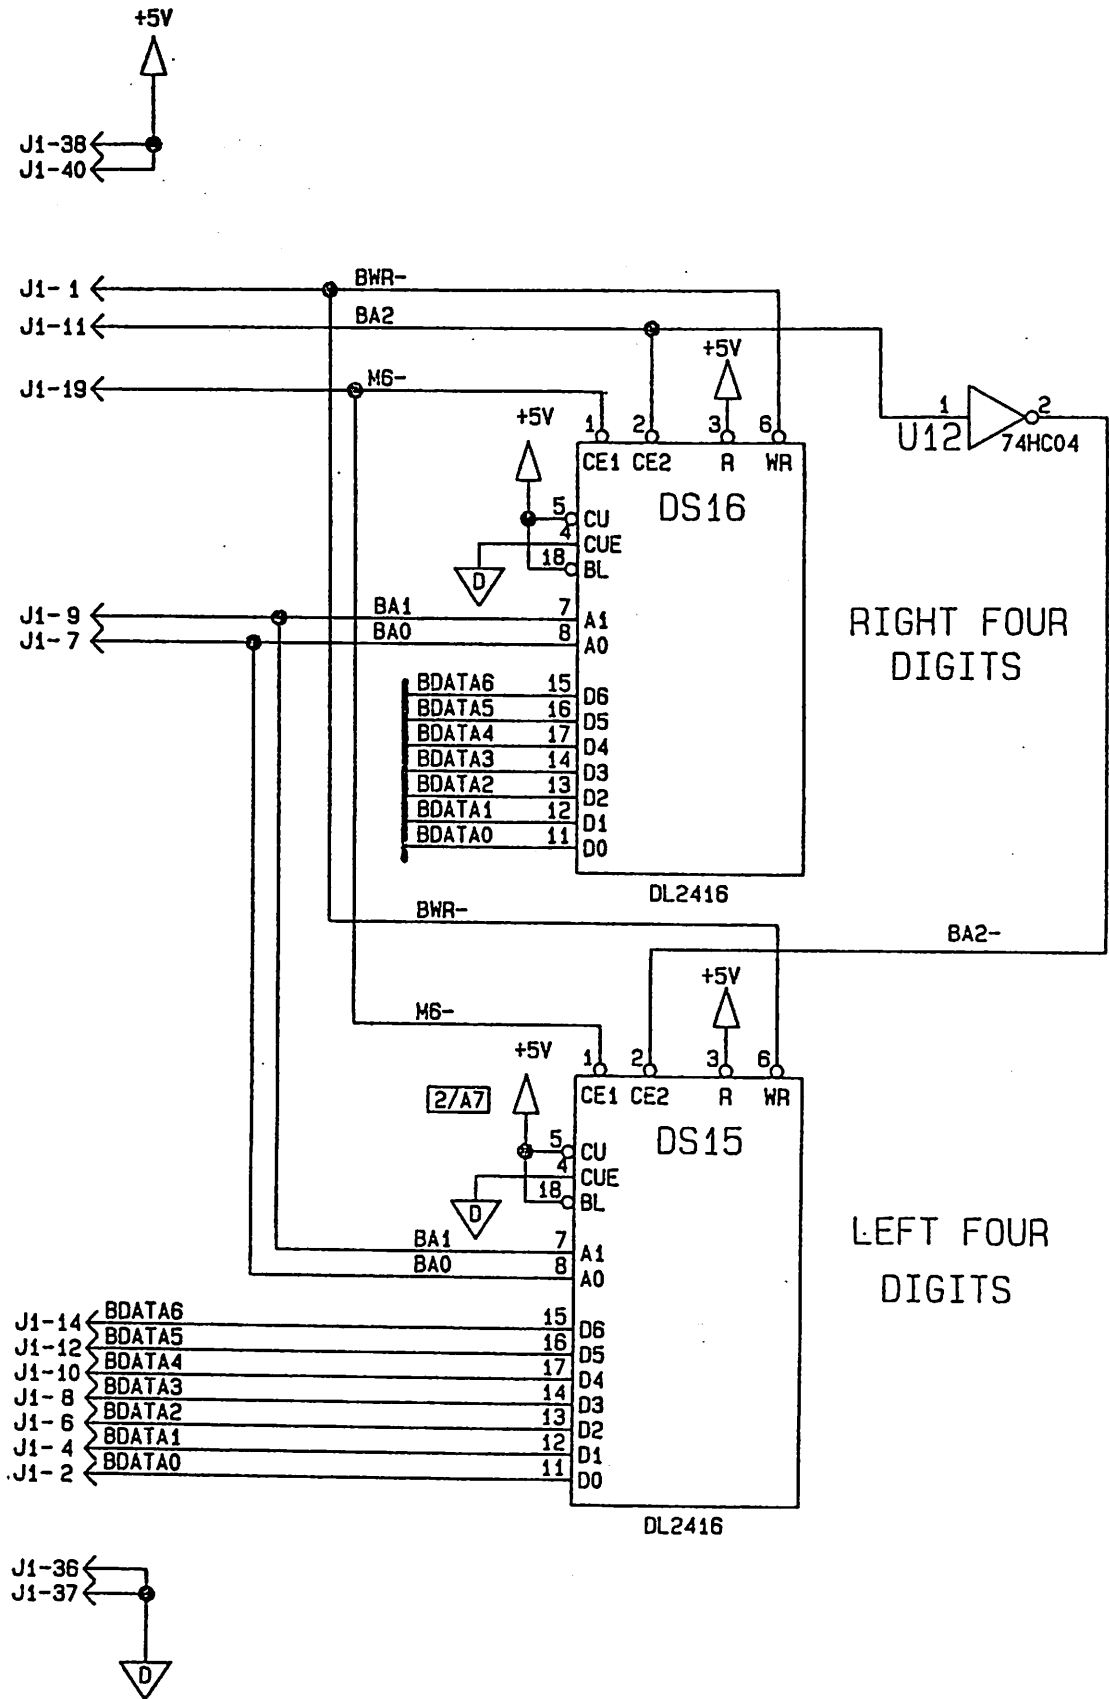

Figure 3-21. Information Display Driver Circuit
3.7.2 Information Display (figure 3-21)